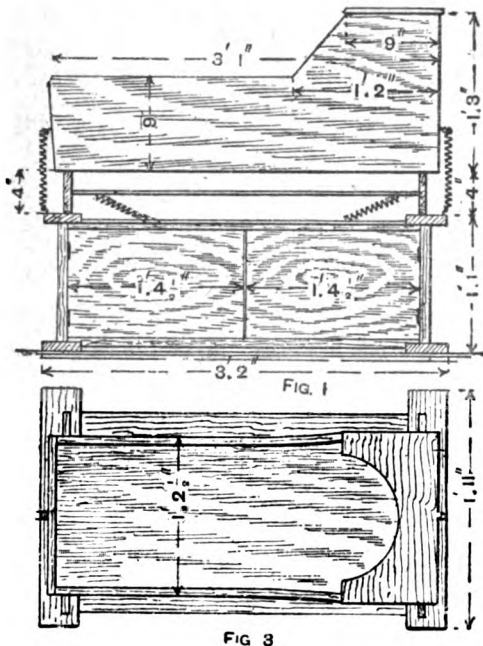

FIG 3
**Child's Rocking Cot.**—Accompanying this is an original design for a child's cot and stand with a cupboard. The arrangement has three important features, namely safety from tilting, ease in rocking, and noiseless action. Fig. 1 shows the front elevation. The cradle is held in position by four coil springs, which reduce the energy expended in rocking the cradle to a minimum. The rockers should be lined with felt to prevent noise. Fig. 2 shows the end elevation, and Fig. 3 the plan. The cradle may be taken off the stand simply by detaching the springs, and the stand, when not in use, may be slid under the bed. Fig. 1 shows the cupboard